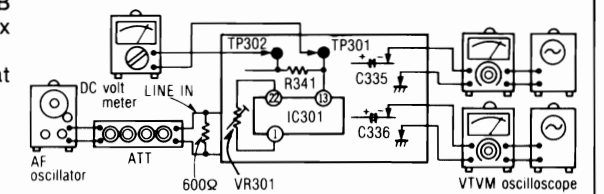

Fig. 24
1. Make the connections as shown in fig. 24 and apply 1kHz -27dB signal from LINE IN, and set the noise reduction selector to dbx tape position.